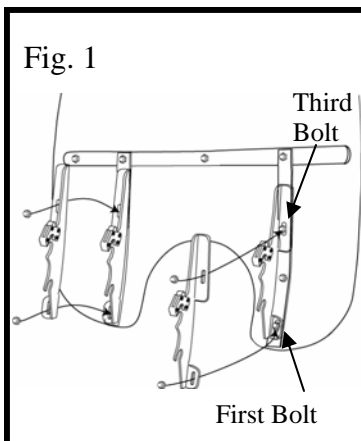

Fig. 1
2. Install the two mounting plates onto the windshield, using the bottom and third bolt up. Leave the nylon washers off. The small tab goes to the bottom, big one at the top. *Tabs point out away from the Headlight.* (see fig. 1)